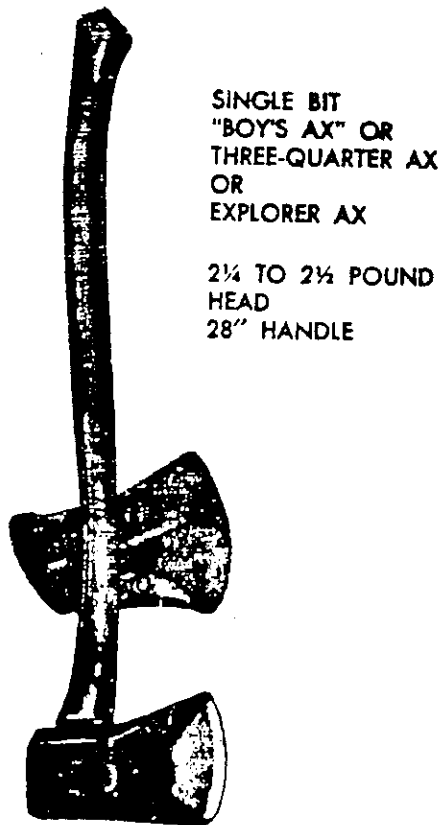

Figure 14 The Woodland
C. The Woodland Camping Axe is a  $\frac{3}{4}$  sized axe. It has a 2 or 3 pound head and an 18 to 28 inch handle. This is the best size axe for youngsters, and it is a good all-around axe for adults who are on canoe trips or doing average camping in the woods. See Figure 14.